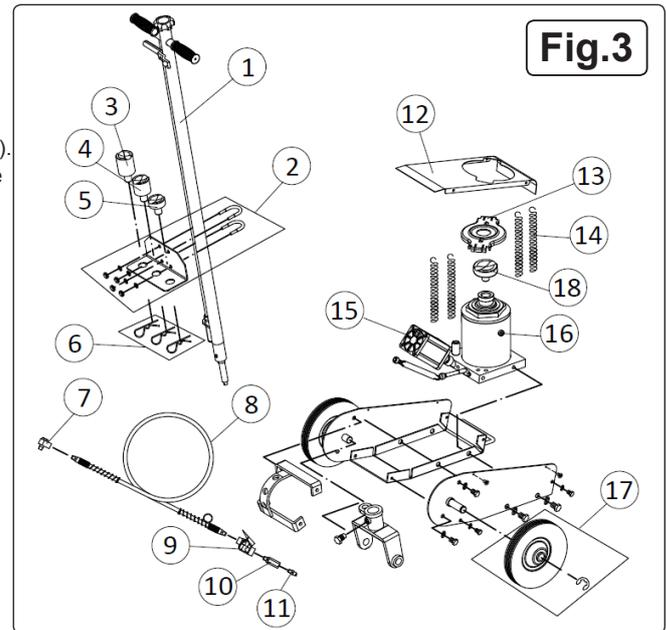

Fig.3
Refer to fig.3
- Refer to fig.3**